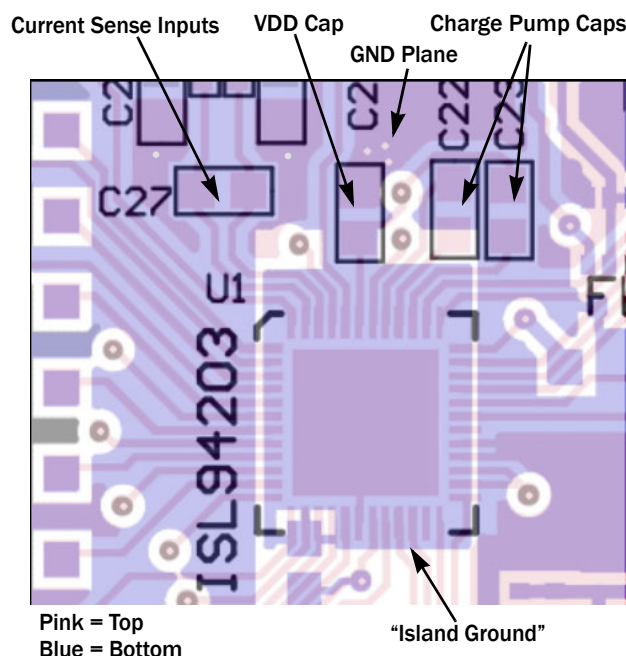

FIGURE 33. EXAMPLE 4-LAYER PCB LAYOUT FOR VDD BYPASS, CHARGE PUMP AND CURRENT SENSE
- An example PCB layout is shown in Figure 33. This shows placement of the VDD bypass capacitor close to the VDD pin and with a good ground connection. The charge pump capacitors are also close to the IC. The current sense lines are shielded by ground plane as much as possible. The ground plane under the IC is shown as an “island”. The intent of this layout was to minimize voltages induced by EMI on the ground plane in the vicinity of the IC. This example assumes a 4-layer board with most signals on the inner layers.